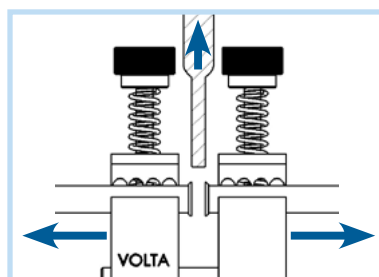

Fig. 11
7. Release the pliers quickly and pull welder away (Fig. 11).